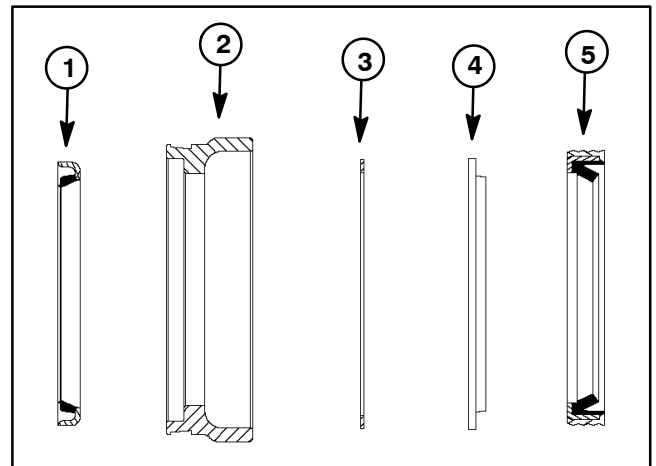
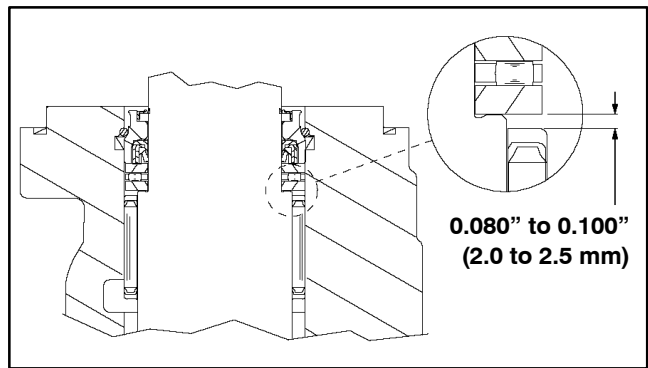

Figure 37
Figure 38
- A. Install metal backup shim (item 22), backup seal (item 21) and shaft seal (item 20) into seal carrier (item 23) noting orientation shown in Figure 37.
- C. Install dust seal (item 27) into seal carrier noting orientation shown in Figure 37.
5. Install high pressure seal (item 24) into the housing groove.
6. Install the backup shim (item 25) into the housing:
7. Install the wire ring (item 26) into the housing groove making sure that the ring ends are butted.
10. Remove shaft from housing and make sure that there is from 0.080" and 0.100" (2.0 to 2.5 mm) clearance between the rear thrust washer in the housing and the front bearing (Fig. 38). If not enough clearance exists, bearing must be repositioned in the housing before continuing with assembly process.